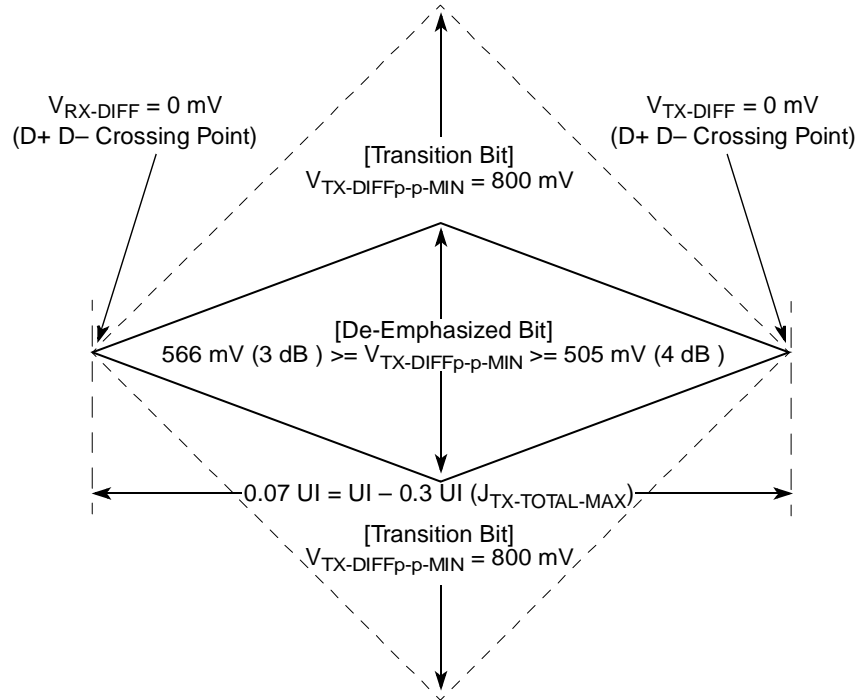
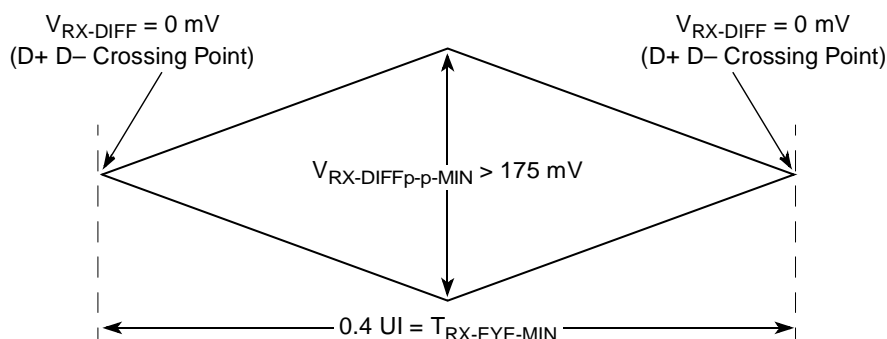
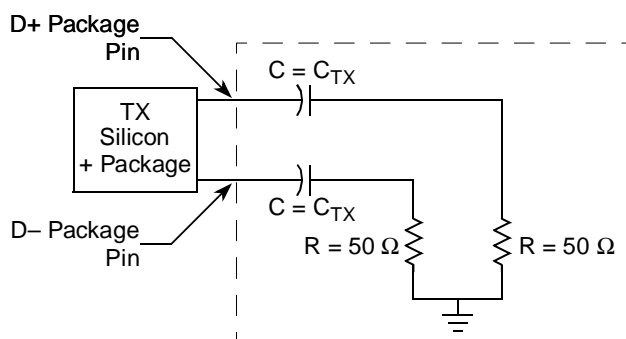

Figure 52. Minimum Transmitter Timing and Voltage Output Compliance Specifications
Figure 53. Minimum Receiver Eye Timing and Voltage Compliance Specification
Figure 54. Compliance Test/Measurement Load
2. Specified at the measurement point into a timing and voltage compliance test load as shown in Figure 54 and measured over any 250 consecutive TX UIs. (Also refer to the transmitter compliance eye diagram shown in Figure 52.)
4. The transmitter input impedance shall result in a differential return loss greater than or equal to 12 dB and a common mode return loss greater than or equal to 6 dB over a frequency range of 50 MHz to 1.25 GHz. This input impedance requirement applies to all valid input levels. The reference impedance for return loss measurements is 50 Ω to ground for both the D+ and D– line (that is, as measured by a vector network analyzer with 50- Ω probes—see Figure 54.) Note that the series capacitors C_{TX} is optional for the return loss measurement.
5. Measured between 20%–80% at transmitter package pins into a test load as shown in Figure 54 for both $V_{\text{TX-D+}}$ and $V_{\text{TX-D-}}$.
The TX eye diagram in Figure 52 is specified using the passive compliance/test measurement load (see Figure 54) in place of any real PCI Express interconnect +RX component.
2. Specified at the measurement point and measured over any 250 consecutive UIs. The test load in Figure 54 should be used as the RX device when taking measurements (also refer to the receiver compliance eye diagram shown in Figure 53). If the clocks to the RX and TX are not derived from the same reference clock, the TX UI recovered from 3500 consecutive UI must be used as a reference for the eye diagram.
4. The receiver input impedance shall result in a differential return loss greater than or equal to 15 dB with the D+ line biased to 300 mV and the D– line biased to –300 mV and a common mode return loss greater than or equal to 6 dB (no bias required) over a frequency range of 50 MHz to 1.25 GHz. This input impedance requirement applies to all valid input levels. The reference impedance for return loss measurements for is 50 Ω to ground for both the D+ and D– line (that is, as measured by a vector network analyzer with 50- Ω probes, see Figure 54). Note that the series capacitors C_{TX} is optional for the return loss measurement.
The RX eye diagram in Figure 53 is specified using the passive compliance/test measurement load (see Figure 54) in place of any real PCI Express RX component.
In general, the minimum receiver eye diagram measured with the compliance/test measurement load (see Figure 54) will be larger than the minimum receiver eye diagram measured over a range of systems at the input receiver of any real PCI Express component. The degraded eye diagram at the input receiver is due to traces internal to the package as well as silicon parasitic characteristics which cause the real PCI Express component to vary in impedance from the compliance/test measurement load. The input receiver eye diagram is implementation specific and is not specified. RX component designer should provide additional margin to adequately compensate for the degraded minimum receiver eye diagram (shown in Figure 53) expected at the input receiver based on some adequate combination of system simulations and the return loss measured looking into the RX package and silicon. The RX eye diagram must be aligned in time using the jitter median to locate the center of the eye diagram.
The reference impedance for return loss measurements is $50\ \Omega$ to ground for both the D+ and D– line (that is, as measured by a vector network analyzer with $50\text{-}\Omega$ probes, see Figure 53). Note that the series capacitors, CTX, are optional for the return loss measurement.
The AC timing and voltage parameters must be verified at the measurement point, as specified within 0.2 inches of the package pins, into a test/measurement load shown in Figure 54.